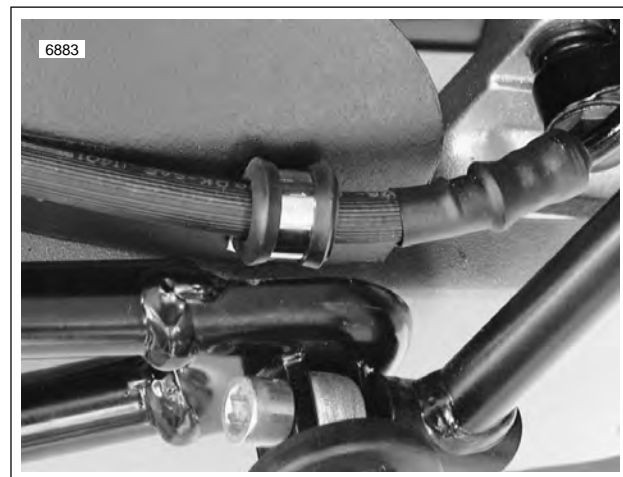

Figure 2-104. Rear Fender With Brake Hose
1. See Figure 2-104. Position fender over tire, making sure that the brake hose is on the outside of the fender as shown.